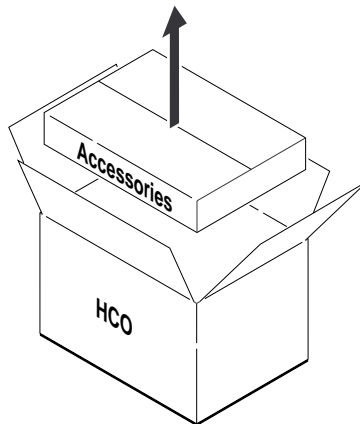

Figure 2 Unpacking the accessories box
Step 1 Remove the accessories box from the outer carton. See Figure 2.